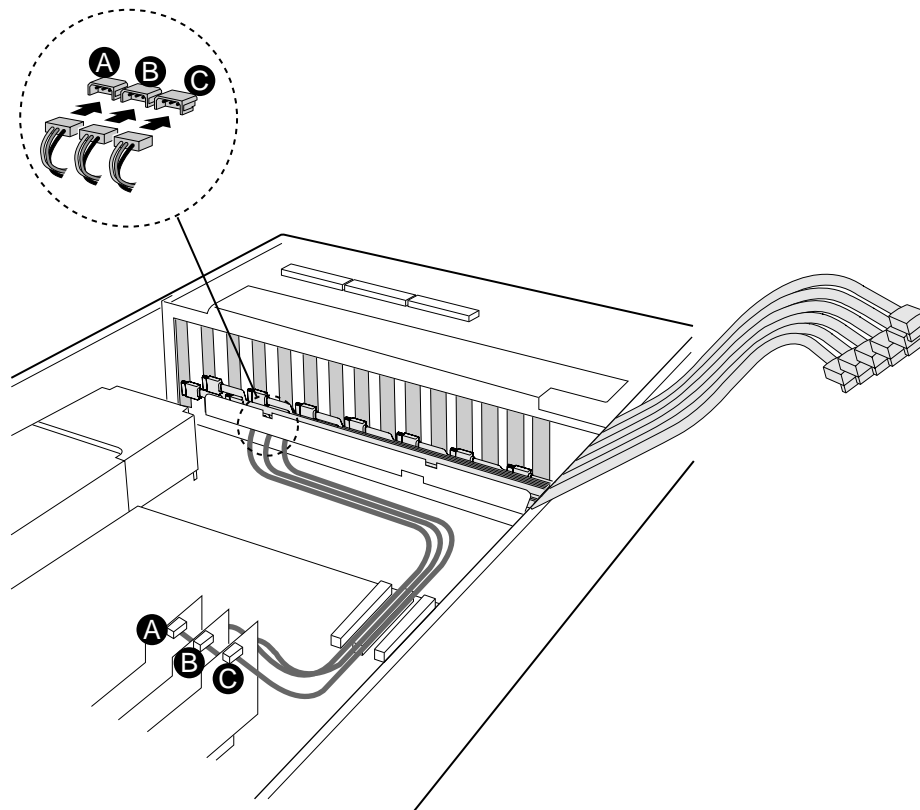

Figure 13. Re-connecting the I²C Cables
- A. Carefully re-connect the I²C Cable connector labeled JP4 to its header on the backplane board. Carefully re-connect I²C Cable connector labeled SL2J6 to its header in the HBA Card set. See Figure 13.
- B. Carefully re-connect the I²C Cable connector labeled JP6 to its header on the backplane board. Carefully re-connect I²C Cable connector labeled SL3J6 to its header in the HBA Card set See Figure 13.
- C. Carefully re-connect the I²C Cable connector labeled JP7 to its header on the backplane board. Carefully re-connect I²C Cable connector labeled SL4J6 to its header in the HBA Card set See Figure 13.